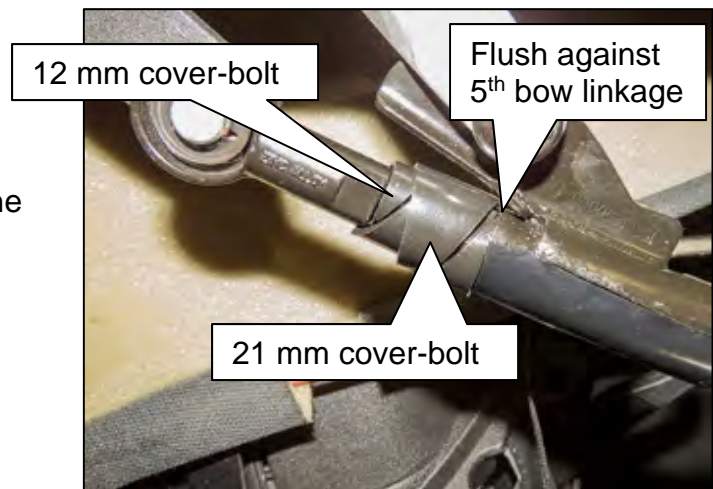

Figure 35
42. Install the 21 mm cover-bolt over the 12 mm cover-bolt (Figure 35).